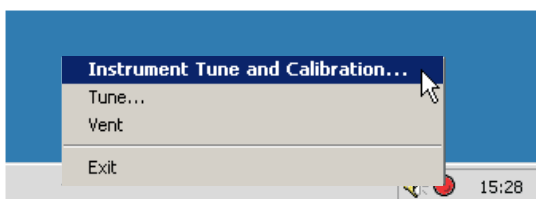

Figure 2-11. The server window
- Open the **Tuning and Calibration Wizard** by right-clicking the server icon and clicking on **Instrument Tune and Calibration** (see Figure 2-11).